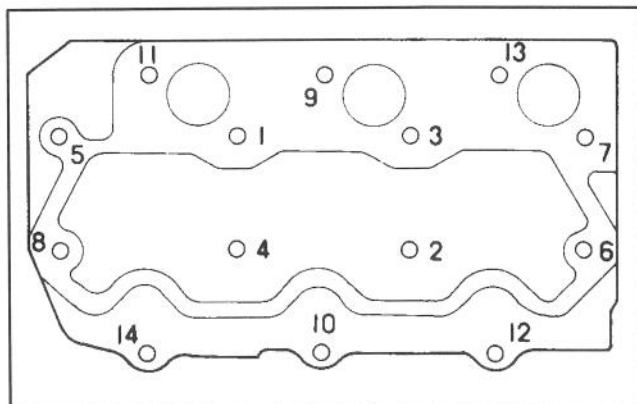

Figure 52
2. Using sequence in figure 52, torque head bolts to 36 to 38 ft-lb.